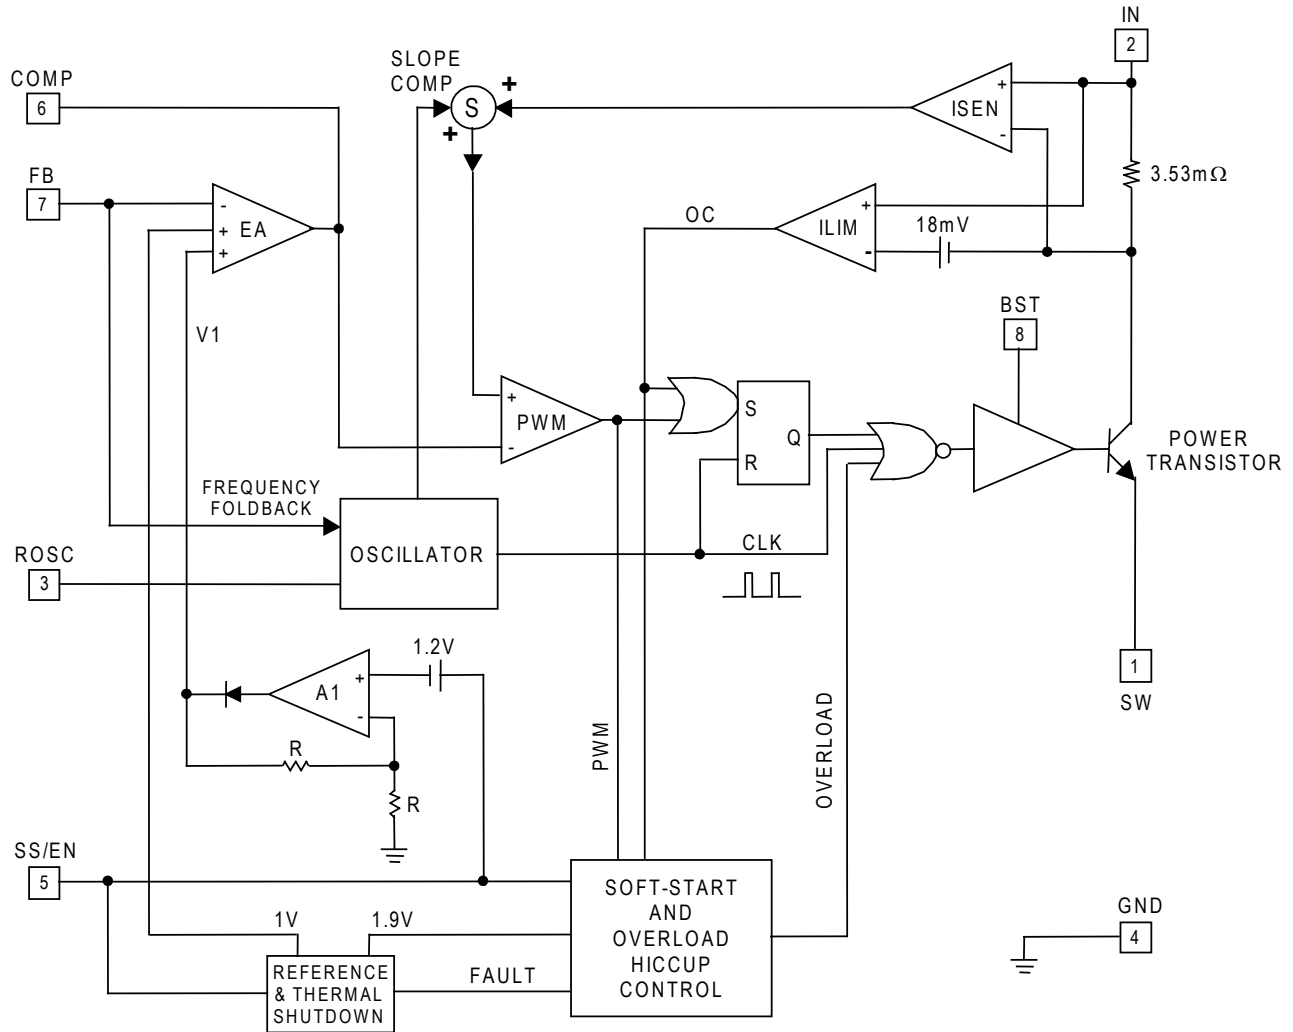

Figure 2 — SC4525E Block Diagram
As shown in Figure 2, the switch collector current is sensed with an integrated 3.53mΩ sense resistor. The sensed current is summed with a slope-compensating ramp before it is compared with the transconductance error amplifier (EA) output. The PWM comparator trip point determines the switch turn-on pulse width. The current-limit comparator ILIM turns off the power switch when the sensed signal exceeds the 18mV current-limit threshold.
The error amplifier EA in Figure 2 has two non-inverting inputs. The non-inverting input with the lower voltage predominates. One of the non-inverting inputs is biased to a precision 1V reference and the other non-inverting input is tied to the output of the amplifier A₁. Amplifier A₁ produces an output V₁ = 2(V_{SS/EN} - 1.2V). V₁ is zero and COMP is forced low when V_{SS/EN} is below 1.2V. During start up, the effective non-inverting input of EA stays at zero until the soft-start capacitor is charged above 1.2V. Once V_{SS/EN} exceeds 1.2V, COMP is released. The regulator starts to switch when V_{COMP} rises above 0.4V. If the soft-start interval is made sufficiently long, then the FB voltage (hence the output voltage) will track V₁ during start up. V_{SS/EN} must be at least 1.83V for the output to achieve regulation. Proper soft-start prevents output overshoot. Current drawn from the input supply is also well controlled.
becomes armed. As the load draws more current from the regulator, the current-limit comparator ILIM (Figure 2) will eventually limit the switch current on a cycle-by-cycle basis. The over-current signal OC goes high, setting the latch B₃. The soft-start capacitor is discharged with (I_D - I_C) (Figure 3). If the inductor current falls below the current limit and the PWM comparator instead turns off the switch, then latch B₃ will be reset and I_C will recharge the soft-start capacitor. If over-current condition persists or OC becomes asserted more often than PWM over a period of time, then the soft-start capacitor will be discharged below 1.9V. At this juncture, comparator B₄ sets the overload latch B₂. The soft-start capacitor will be continuously discharged with (I_D - I_C). The COMP pin is immediately pulled to ground. The switching regulator is shut off until the soft-start capacitor is discharged below 1.0V. At this moment, the overload latch is reset. The soft-start capacitor is recharged and the converter again undergoes soft-start. The regulator will go through soft-start, overload shutdown and restart until it is no longer overloaded.
The PWM latch in Figure 2 is reset every cycle by the clock. The clock also turns off the power transistor to refresh the bootstrap capacitor. This minimum off time limits the attainable duty cycle of the regulator at a given switching frequency. The measured minimum off time is 138ns typically. If the required duty cycle is higher than the attainable maximum, then the output voltage will not be able to reach its set value in continuous-conduction mode.